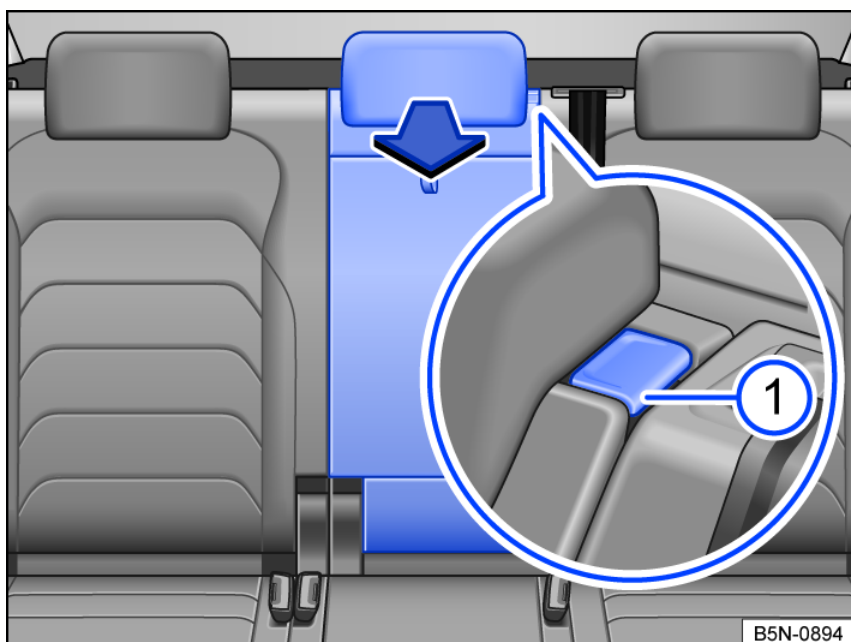

Fig. 165 In the rear seat backrest: Open load-through hatch.
- Press the release button fig. 165 1 and fold the luggage compartment pass-through forwards ⇒ ⚠.
- Fold the luggage compartment pass-through backwards and press it firmly into the catch until it securely engages ⇒ ⚠. The red marking on the release button fig. 165 1 must not be visible.